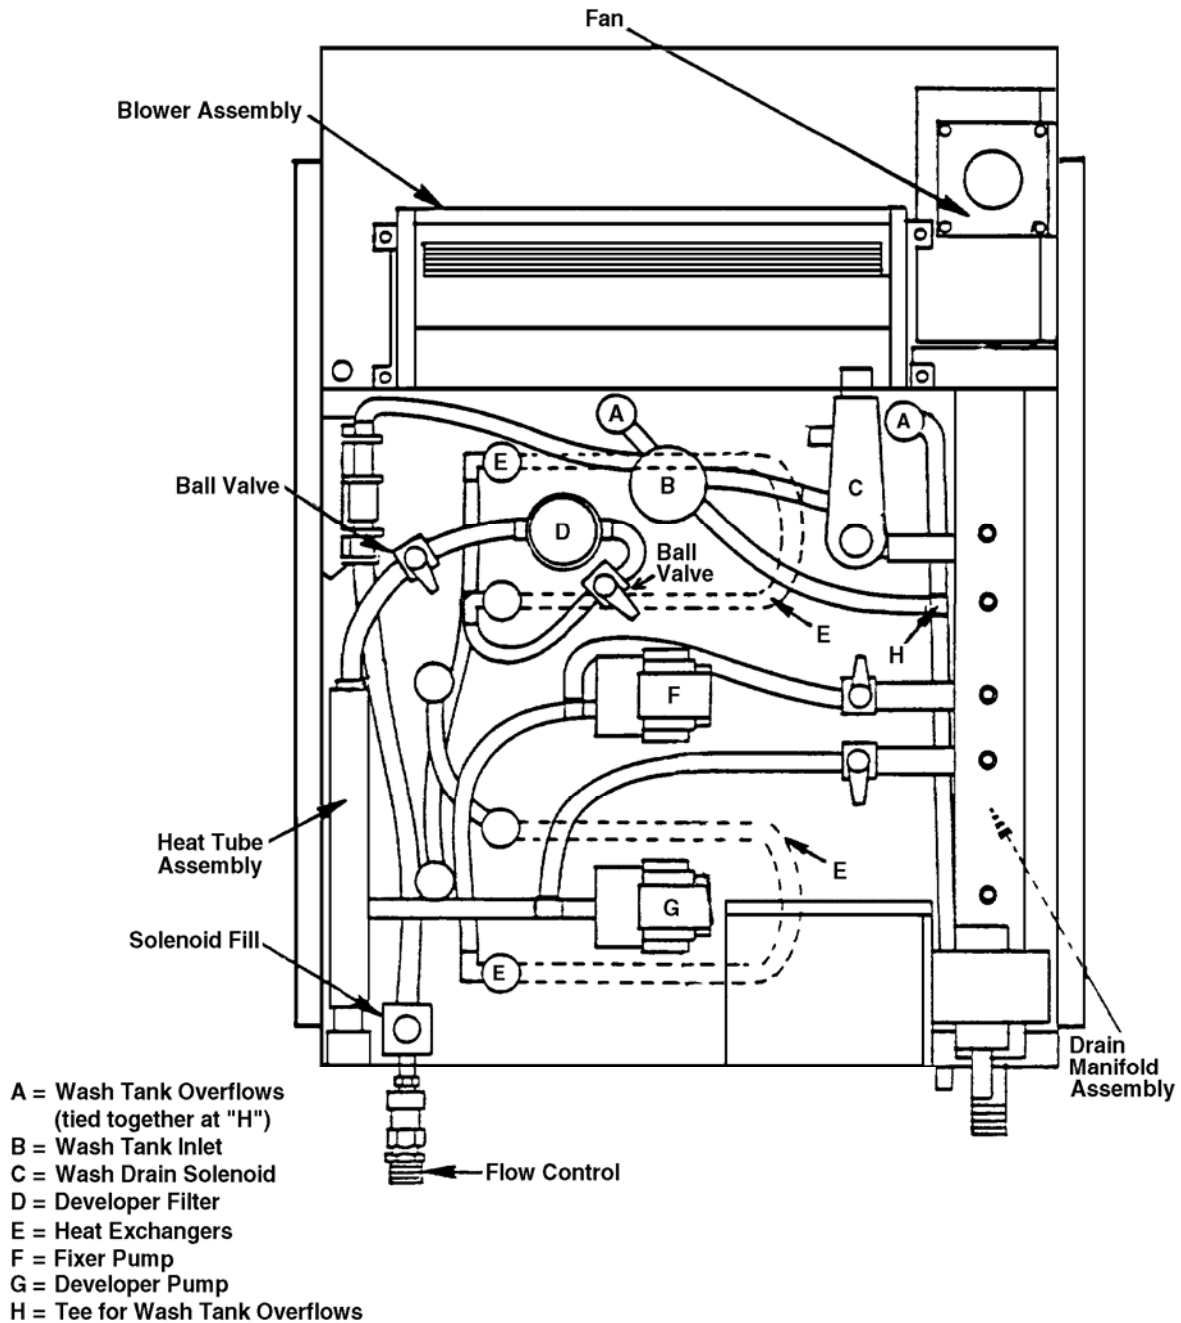

Figure 1-6. Plumbing cross section.
- (g) Remove and clean the developer filter element and housing. See (5) below.
(5) Service the developer filter element and housing. The AFP 14-X3 is equipped with a serviceable element developer filter. The filter is located on the left side of the processor, directly under the wash tank. Service the developer monthly, or each time you drain and replace the developer, whichever occurs most often, as outlined below. Refer to figure 1-6.